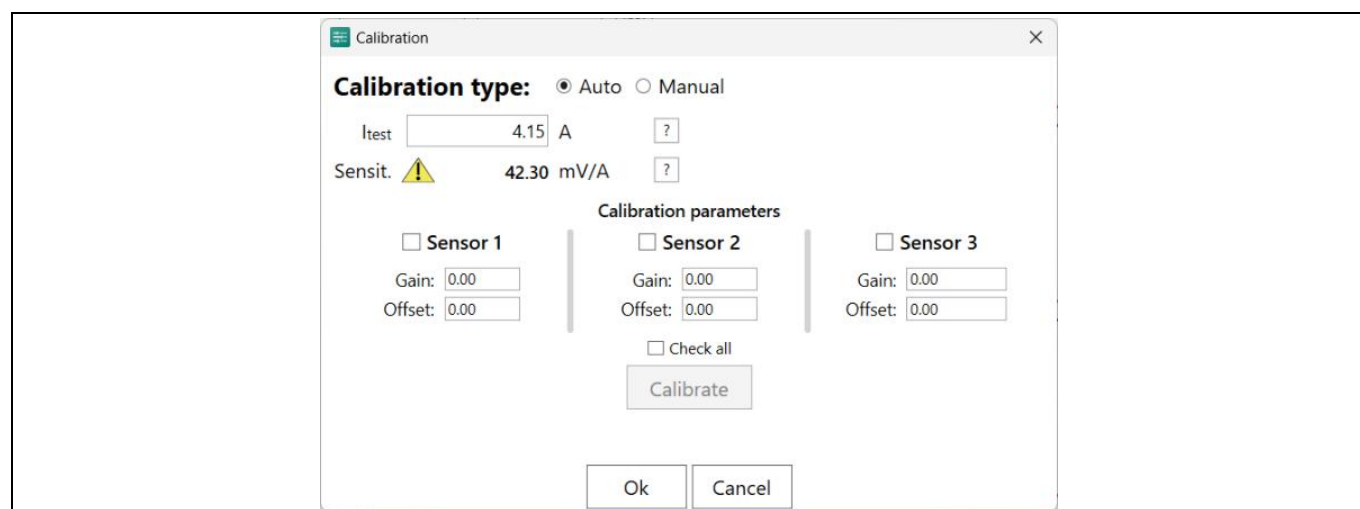

Figure 18 Software automatic calibration
1. **Automatic calibration:** Input the test current and select the sensors for calibration. You can select multiple sensors at once. Ensure that the current source is connected to all the selected sensors. The target sensitivity will be shown based on the selected board configuration (Figure 18). Click the **Calibrate** button to start the calibration process: Turn on the current source at the selected test current, then turn it off. In background, the software will sample data from the sensors and calculate the offset and gain accordingly. The datasheet assumes a multi-point calibration with best-fit up to full-scale. For the moment, the software only supports single-point calibration